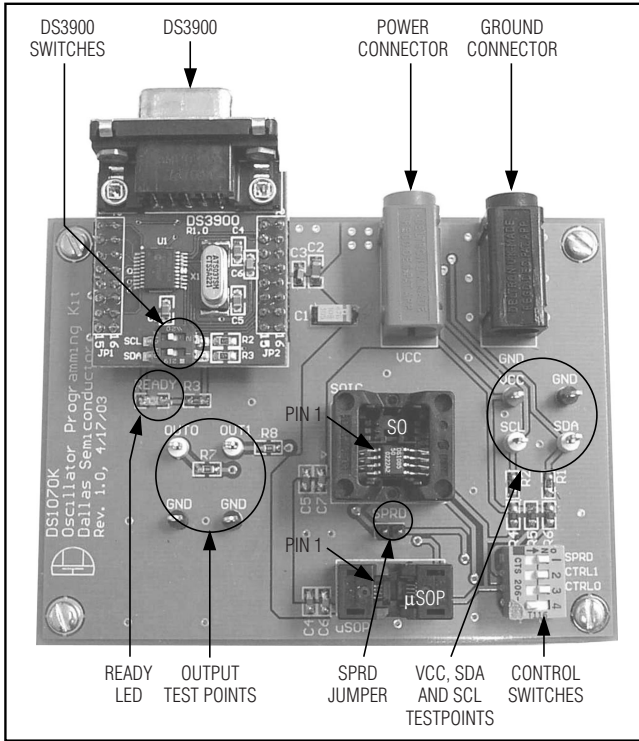

Figure 1. DS1070K Oscillator Programming Kit Hardware
- Install the DS3900 on the programming board with the orientation shown in Figure 1.
- Install the device to program in the proper socket. The top socket accommodates SO packages, the bottom socket accommodates μ SOP packages. The device's pin 1 indicator (dot) should be pointed towards the DS3900 (see Figure 1). Ensure the other socket is empty.
The DS1070K hardware (Figure 1) features a DS3900 communications module that allows a PC to communicate with 2-wire devices using its serial port. Test sockets for both the SO and μ SOP packages allow the devices to be easily programmed before they are placed onto a customer's application board. The programming board's power connections are made using standard banana jacks, and test points are available for programming verification. DIP switches and jumpers allow the board to be configured to facilitate any of the supported oscillator types.
Device in socket backward	Ensure the pin 1 indicator of the device is properly oriented in the socket. See Figure 1.